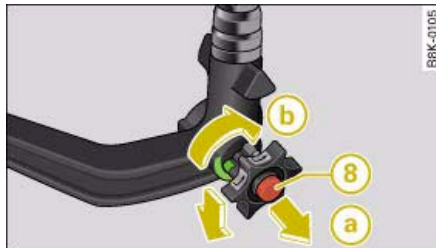

Fig. 243 Removable towing bracket: Removing the ball joint
- Take off the cover cap and insert the key  ⇒ fig. 243 in the lock on the knob.